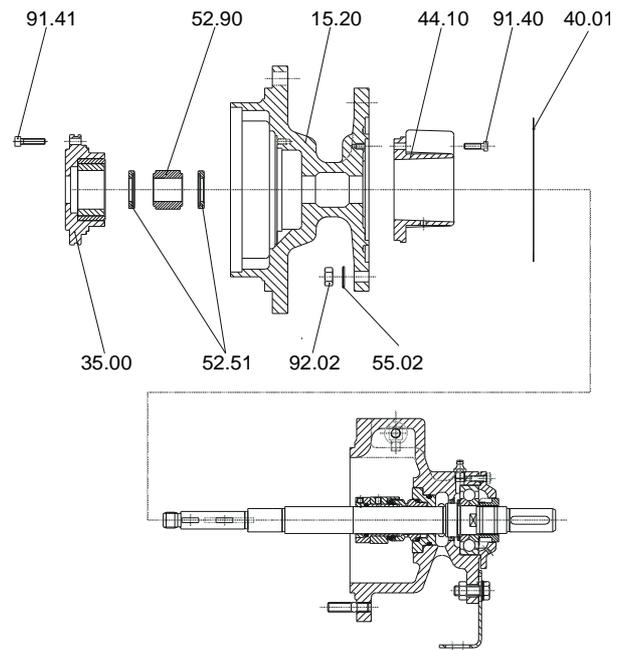

Fig. 3
8. Remove Allen screws 91.41 and dismantle bearing carrier 35.00 (lever out if necessary). (fig. 3)
9. Withdraw bearing bush 52.90 and spacer rings 52.51 from the shaft (fig. 3).
10. Loosen hexagonal nut 92.02, remove washer 55.02 and dismantle intermediate flange 15.20 (fig. 3).
11. Only if damaged, dismantle the housing for mechanical seal 44.10. To do this, unscrew bolts 91.40 and remove the housing (fig. 3).